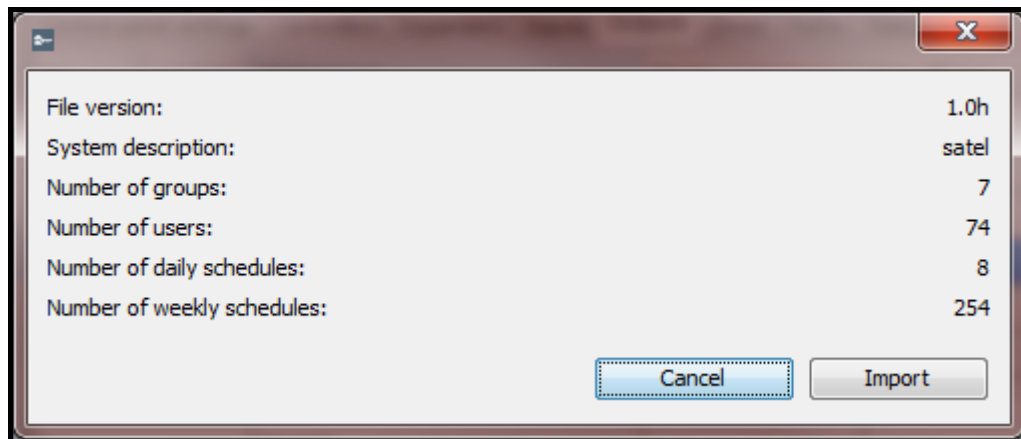

Fig. 56. Window with information on data imported from the ACCO-SOFT-LT program.
8. Window with information on imported data will open (see: Fig. 56). Click on the “Import” button to start the data import procedure. After completion of the procedure, a message will be displayed to inform you about it.
Continue – click to confirm the entered data. A window with information on the data imported from the ACCO-SOFT-LT program will open (see: Fig. 56).